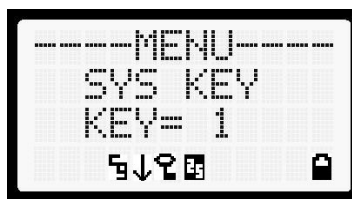

Figure 10-12: System Encryption Key Display
3. Use the  or  button to toggle between displaying the system key (Figure 10-12) or the group/channel key (Figure 10-13).